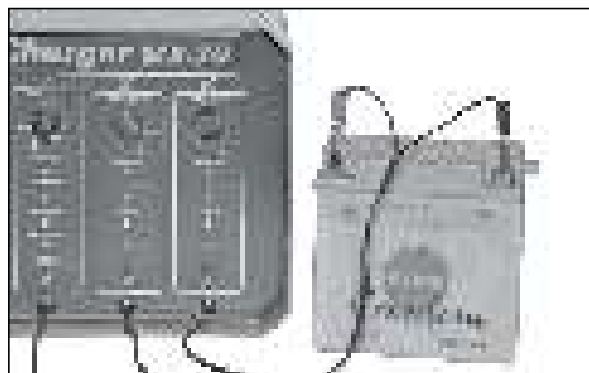

Fig. 5.95
- Remove the filler cover strip of battery and connect the positive lead of the battery charger (red colour) to the positive terminal (+) of the battery and the negative lead of the charger (black colour) to the negative terminal (-) of the battery as shown in the figure. (Fig. 5.95)